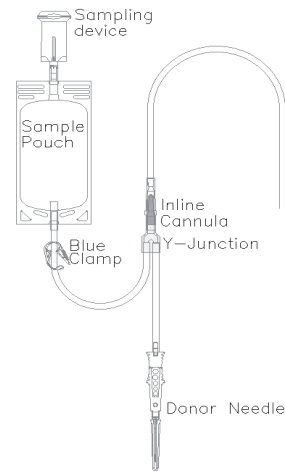

Figure 1
- Use the cannula activation tool (cannula cracker) or qualified automated system only to open the X-Breaker in the top seal of the primary (CPD) and Adsol containers. Do not use the tool to open the cannula in the donor lead. This must be opened manually. See Figure 1.
- In-line cannula is broken and/or anticoagulant is present in the sample pouch or in the tubing from the in-line cannula to the sample pouch and donor needle (see Figure 1)
3. Unwind the tubing and ensure it is torsion-free to prevent the needle from turning while drawing blood. See Figure 1.